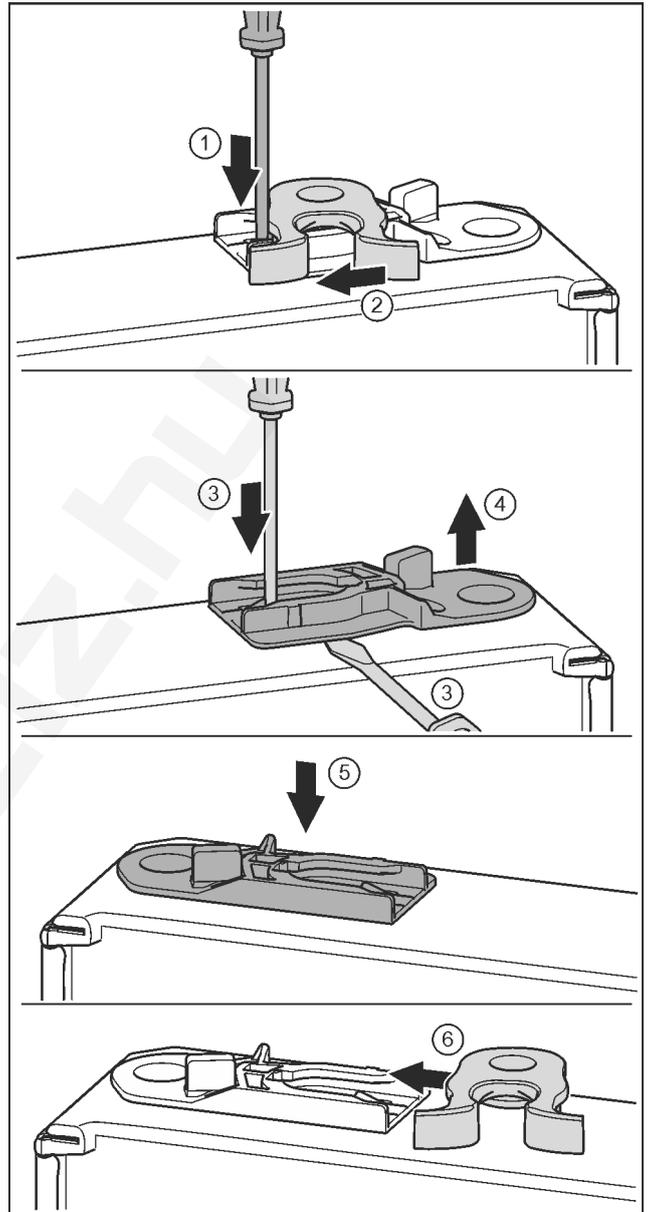

Fig. 34 \*
- ▶ Push the tab downwards with a slotted screwdriver. Fig. 34 (1) \*
- ▶ Pull the door latch out of the guide. Fig. 34 (2) \*
- ▶ Pull out the guide bush: Press the tab with a slotted screwdriver and, at the same time, insert the slotted screwdriver under the guide bush. Fig. 34 (3, 4)\*
- ▶ Slide the guide bush included in the scope of supply to the other side of the housing. Fig. 34 (5) \*
- ▶ Push the door latch into the guide. Fig. 34 (6)\*